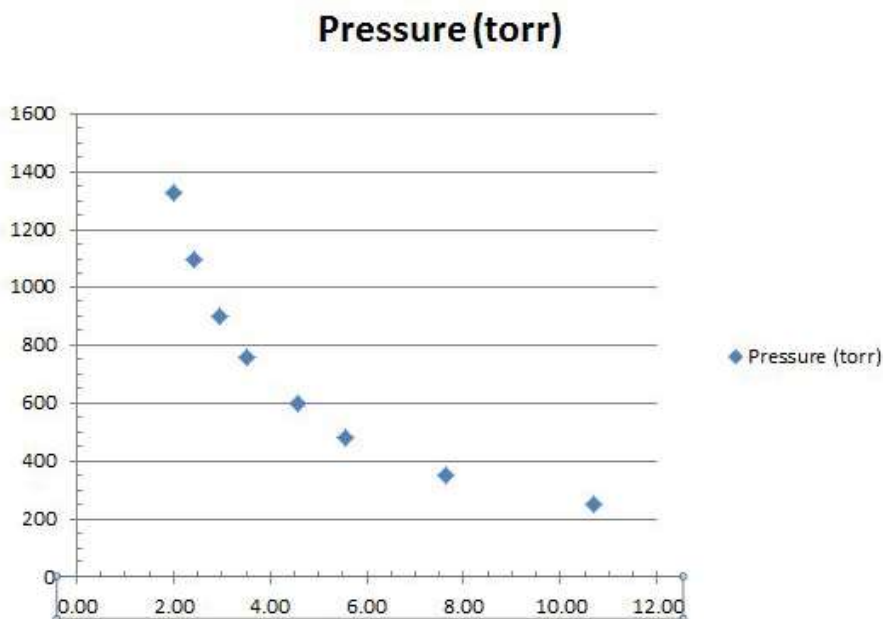

Figure 7.11: Scatter plot with new x and y axis marks. credit author
- Now change the x-axis values (using what you have just learned) to label the axis every 2 units with a minor tick mark every 0.5 units. Change the labels on the axis to reflect the precision of your data (to the hundredths). This can be accomplished by changing the number format in your graph from "general" to "number" and choosing to display the numbers to 2 decimal places. The resulting graph should now look similar to what is shown below in Figure 7.11.